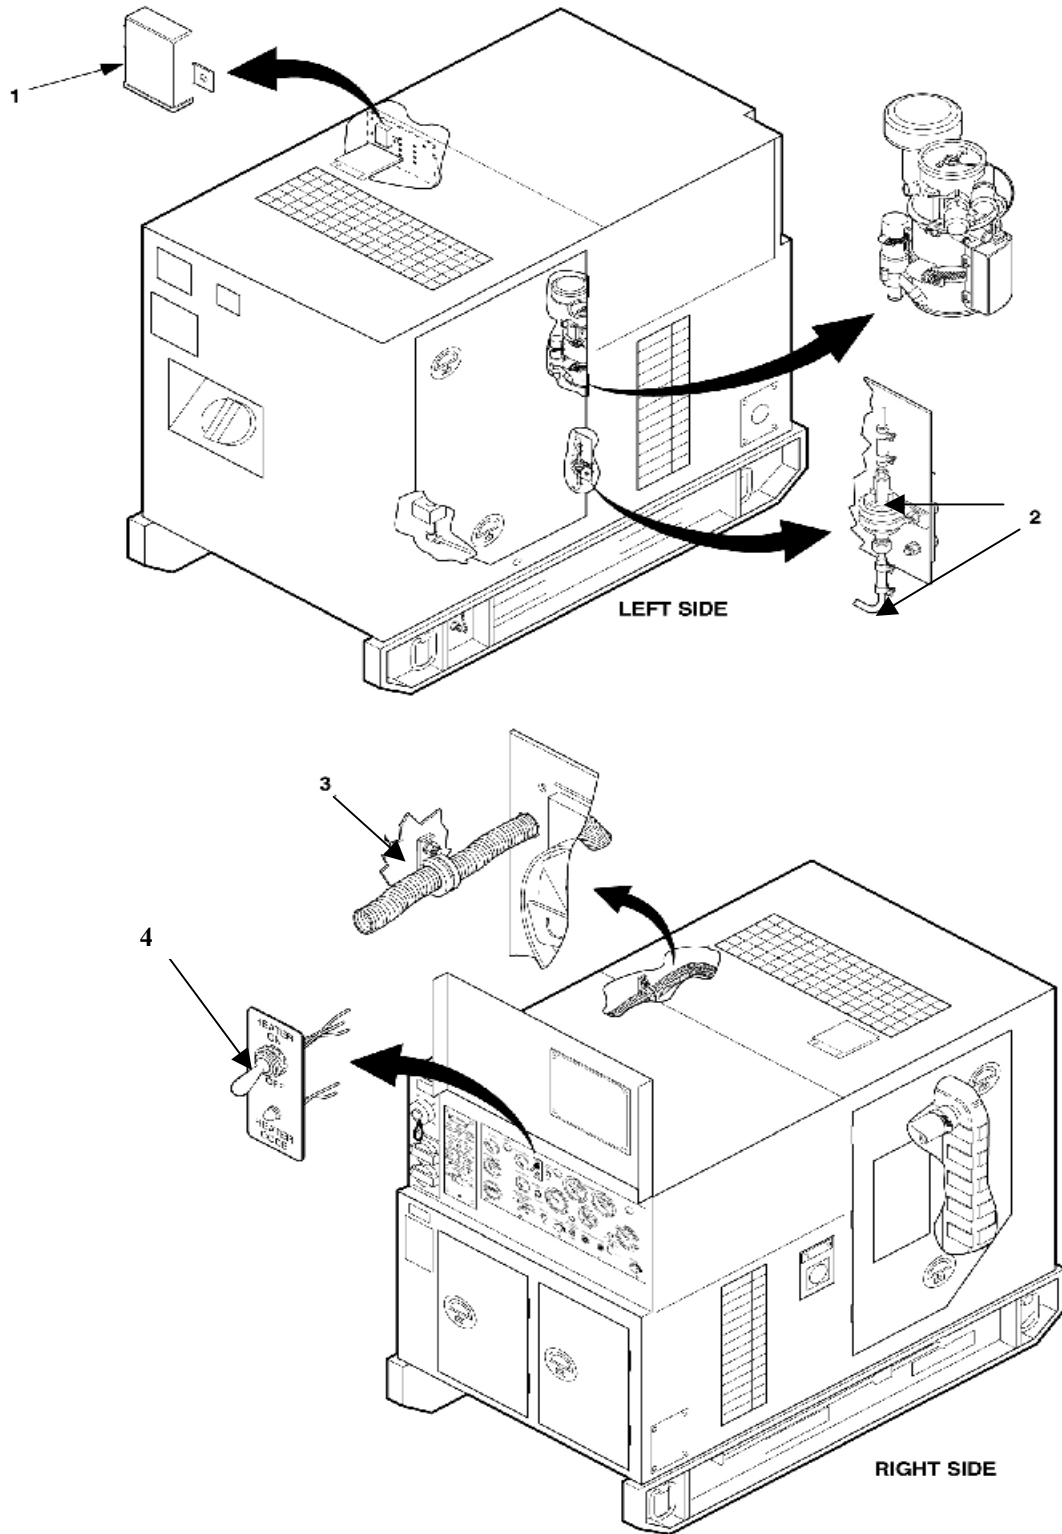

Figure 4-1. Unit PMCS Routing Diagram.
**4-7.4 Special Instructions.** Preventive maintenance is not limited to performing the checks and services listed in the PMCS table. See Figure 4-1 for PMCS routing. Covering unused receptacles, stowing unused accessories, and other routine procedures such as equipment inventory, cleaning components, and touch up painting are not listed in the table. These are things you should do any time you see that they need to be done. If a routine check is listed in the PMCS table, it is because experience has shown that problems may occur with this item. Take along tools and cleaning cloths needed to perform the required checks and services.